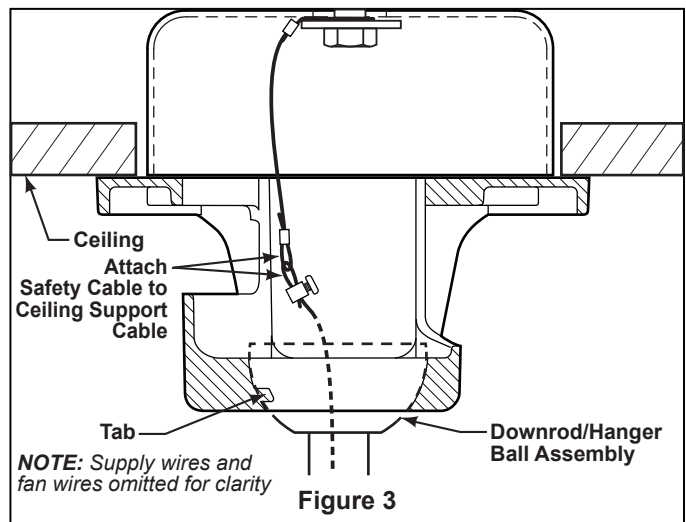

Figure 3
10. Loosen the two setscrews in the downrod support. Align the clevis pin holes in the downrod with the holes in the downrod support. Install the clevis pin and secure with the hairpin clip (Figure 3). The clevis pin must go through the holes in the downrod support and the holes in the downrod. Be sure to push the straight leg of the hairpin clip through the hole near the end of the clevis pin until the curved portion of the hairpin clip snaps around the clevis pin. The hairpin clip must be properly installed to prevent the clevis pin from working loose. Pull on the hanger ball to make sure the clevis pin is properly installed.
11. While pulling up on the hanger ball, securely tighten the two setscrews in the downrod support (Figure 3).
4. Carefully lift the fan and seat the downrod/hanger ball assembly on the hanger bracket that was just attached to the ceiling joist. Be sure the groove in the ball is lined up with tab on the hanger bracket. (Figure 3)
5. Attach the safety cable to ceiling support cable. Slide cable clamp onto safety cable (from fan). Place the end of cable through the loop of ceiling support cable. Pull as much cable through loop as possible. Feed end of cable into clamp hole and firmly tighten screw (Figure 3). Cut off excess safety cable.
- Connect wires to Terminal Block as indicated: (Figure 3)
1. To install lower cap - screw in lower cap into bulb socket until tight. (Figure 3)